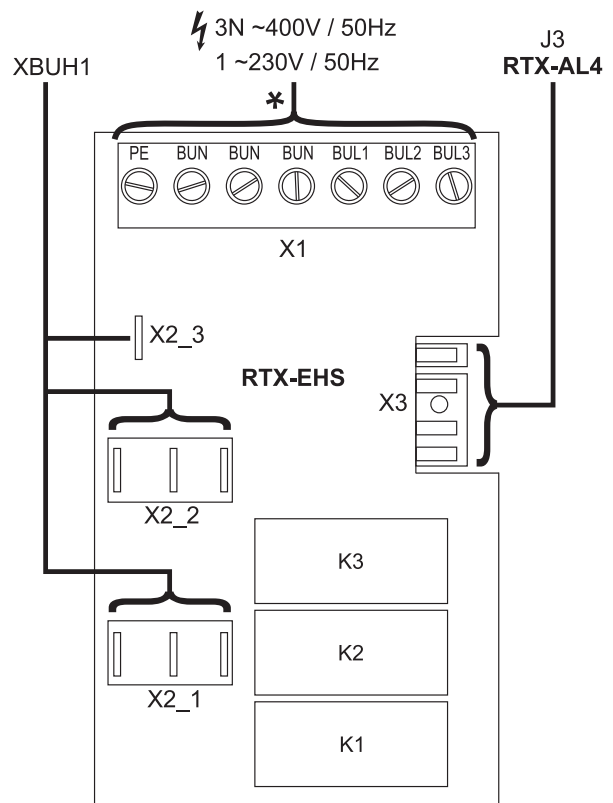

Fig. 3-11 Circuit board RTX-EHS (Backup Heater) - see section 3.4.14
- Connect the power supply for the Backup Heater to the terminal rail X1 of the switch board RTX-EHS (fig. 3-11) in the regulation housing of the Daikin Altherma EHS(X/H).